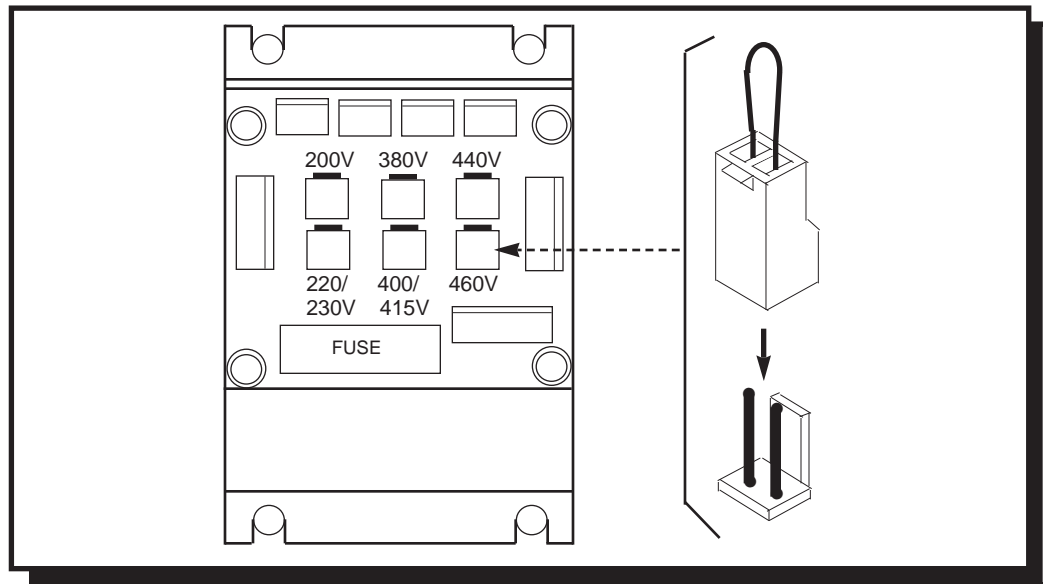

Figure 6. **Voltage Selection in 460V VCD 723, 15HP and Above**
- For 460V, 15HP and above verify that the power voltage select connector in the VCD 723 is positioned correctly for the input power line voltage (see Figure 6). Voltage is preset to 460V at the factory. Reposition if required.